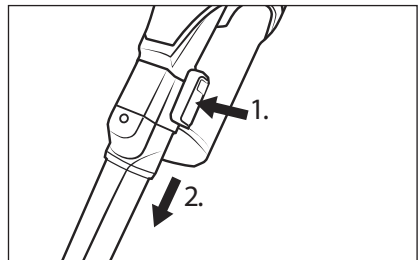

Fig. 15
- ◆ To remove the accessory, press and hold the release button on the accessory, then pull the accessory off the suction pipe **24** or the suction opening of the appliance (see Fig. 15).